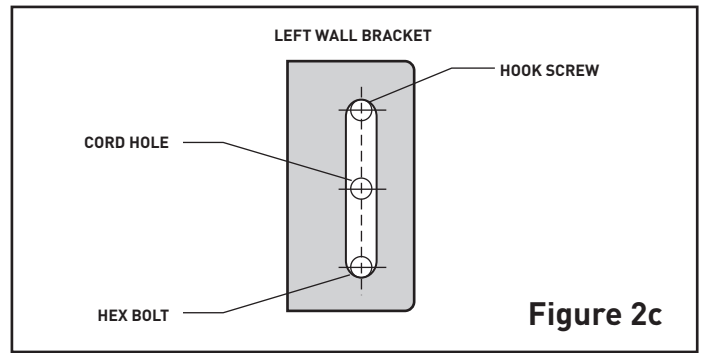

Figure 2c
5. If you plan on operating your Window Awning from inside your home, on the **left side only** of the mounting location, measure the distance from the center of the Hex Bolt location to the center of the Hook Screw location and make a new mark for the Cord Hole on the center line half way between these two points, as shown in figure 2c.